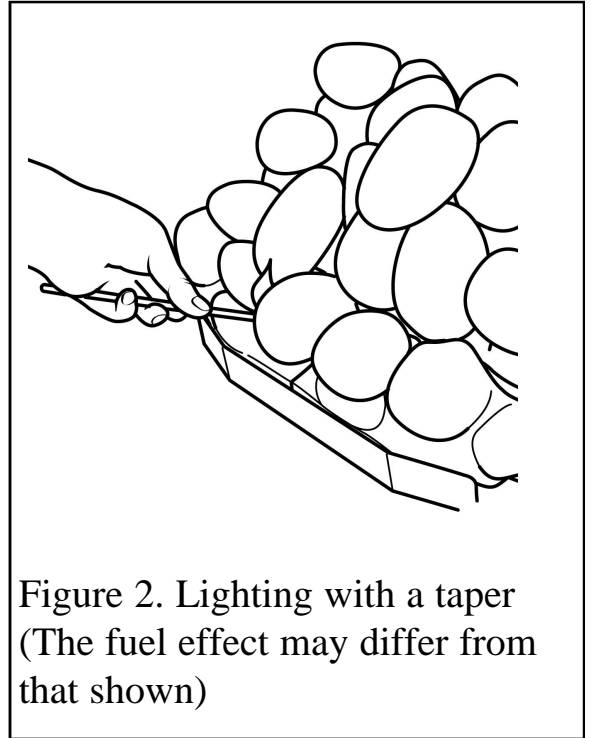

Figure 2. Lighting with a taper
4. For a higher heat level slide the button upwards. The burner flames and heat output will gradually increase until the button reaches the high heat position shown in figure 2. When the button reaches the high heat position you will feel a check to its movement.
(See figure 2).